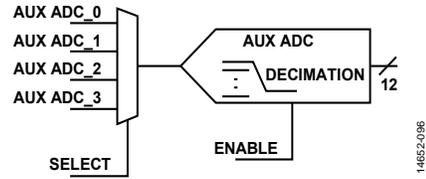

Figure 109. Auxiliary ADC Input Block Diagram
The auxiliary analog-to-digital converter (ADC) is a single 12-bit auxiliary converter with four multiplexed inputs that cover an input level range from 0.05 V to 3.25 V. The auxiliary ADC allows monitoring of the desired voltages, such as a power amplifier (PA) power detector or an external temperature sensor. Figure 109 shows the general auxiliary ADC input connection scheme.